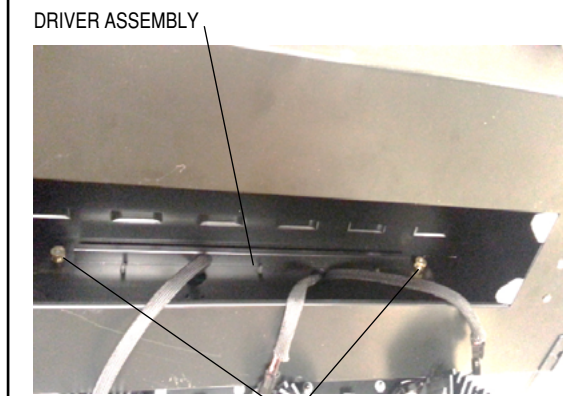

FIG. 10 REMOVE THUMB NUTS
2. Disconnect power plug to the LED modules by depressing latch on LED power plug (A) (see LED Replacement).
3. The driver assembly is held in place with two (2) thumb nuts. Remove driver assembly thumb nuts (Fig. 10).